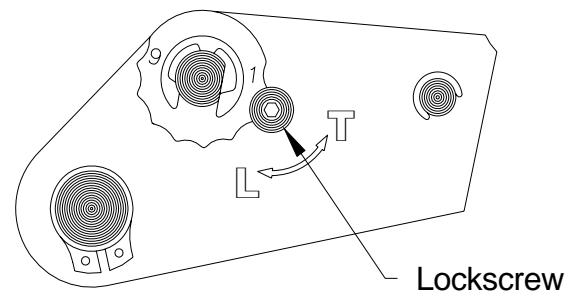

Figure 4
1. Remove the lock screw (see Figure 4) from the ratchet adjustment wheel.